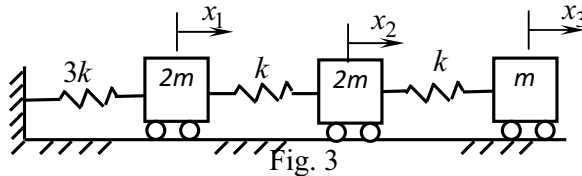

Fig. 3
- 17** Determine the influence coefficients of the triple pendulum shown in Fig.3.
- 19** Determine the natural frequencies of the system shown in Fig. 3. Use Holzer's method
- 20** Using matrix iteration method, determine first two natural frequencies of the system shown in Fig. 3